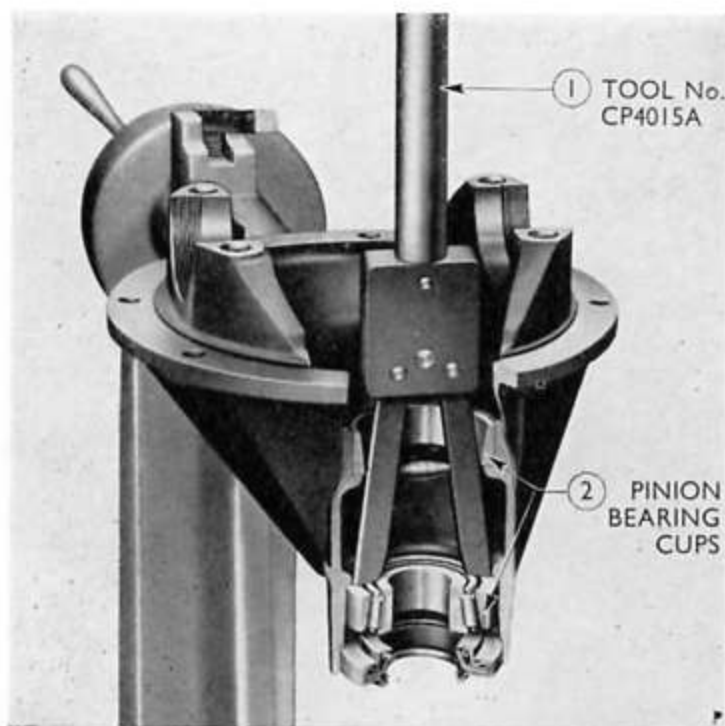

Fig. 5
6. **Remove the pinion bearing cups, front bearing and oil seal.** Drive out the front bearing and oil seal first (see Fig. 5), using the special driver (Tool No. CP.4015A), passing the body of the tool
through the rear bearing cup. Ensure that the spring-loaded legs of the driver are located in the notches provided behind the bearing cup, as shown in Fig. 5. Drive out the rear pinion bearing cup from the front, in the same manner.